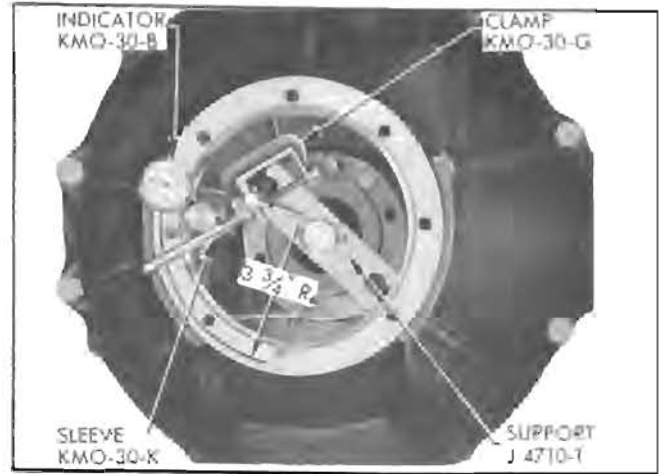

Figure 2-45—Checking Runout of Rear Face of Bell Housing
3. Attach Indicator Support J 4710-1 to crankshaft flange with two opposite flywheel bolts. See figure 2-45.
5. Mount Clamp KMO-30-G and Dial Indicator KMO-30-B on the indicator support so that dial indicator bears against rear face of bell housing at a radius of $3\frac{3}{4}$ ". See figure 2-45.